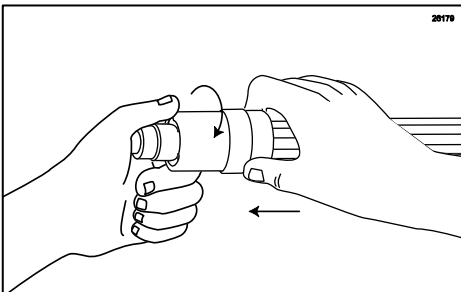

Figure 79
31. Push the Coupler Nut into the Coupler Body and rotate the Coupler Body until motion stops to secure. (See Figure 79.)